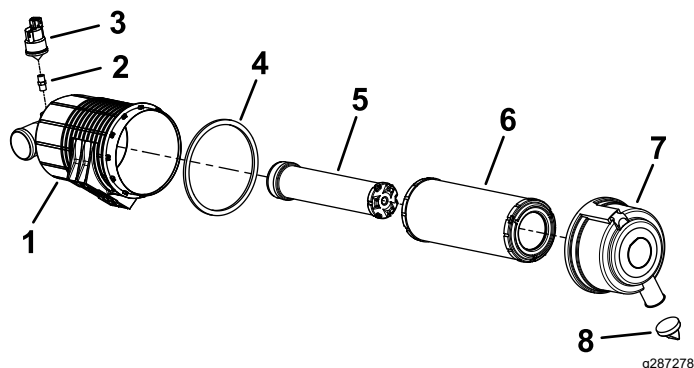

Figure 39
3. Service the air-cleaner filter and safety element when the air-cleaner indicator shows red (Figure 39).